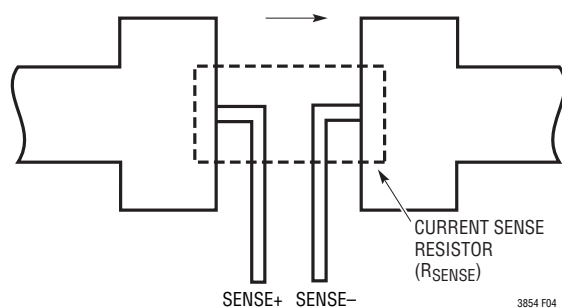

Figure 5. Kelvin Sensing RSENSE
- 3) Are the SENSE- and SENSE+ leads routed together with minimum PC trace spacing? The filter capacitor between SENSE+ and SENSE- should be as close as possible to the LTC3854. Ensure accurate current sensing with Kelvin connections as shown in Figure 5. Series resistance can be added to the SENSE lines to increase noise rejection.
- 6) Keep the switching node (SW), top gate node (TG), bottom gate node (BG) and boost node (BOOST) away from sensitive small-signal nodes, especially from the voltage and current sensing feedback pins. All of these nodes have very large and fast moving signals and therefore should be kept on the “output side” (Pins 4,5,6 and 8) of the LTC3854 GND and occupy minimum PC trace area.